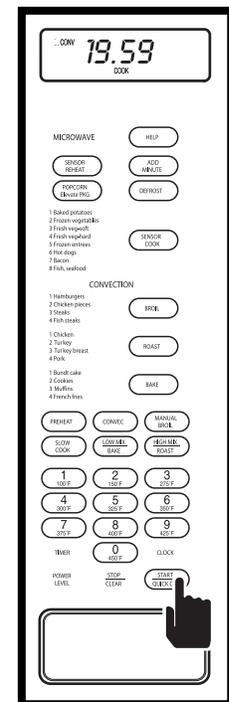

Figure 3-74 Press QUICK ON/START Key
4. Press the QUICK ON/START key (See Figure 3-74).